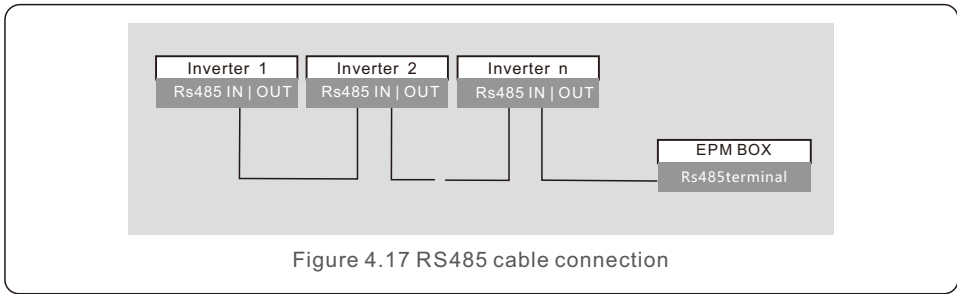

Figure 4.17 RS485 cable connection
- b. Refer to figure 4.17, connect communication cable between inverter and EPM, the RS485 line length between the inverter 1 and EPM should less than 1000 meters.